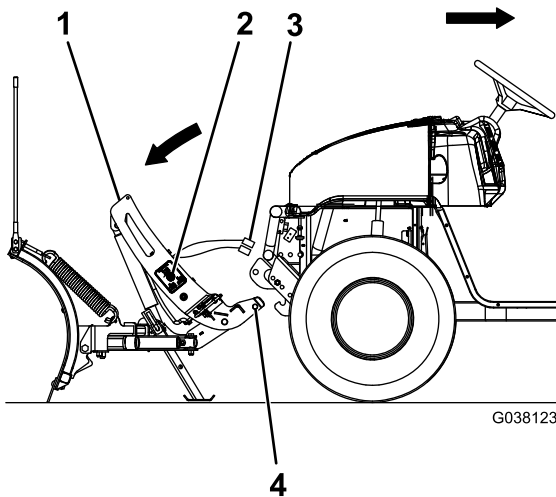

Figure 23
5. Push the SmartHitch2 switch on the side of the coupler tower downward and lower the tower completely (Figure 23).
6. Disconnect the plow wire harness from the vehicle wire harness and secure the electrical-plug dust-covers (Figure 23).